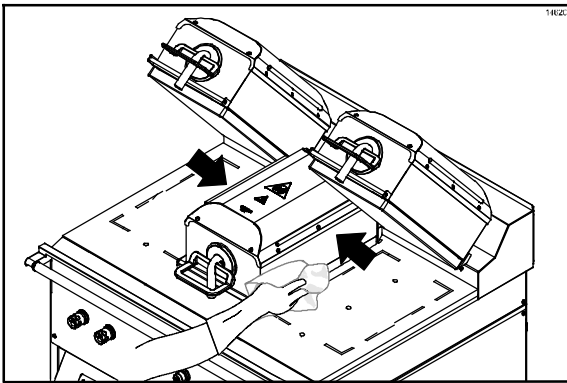

Figure 101
33. Rinse both sides of the center platen. (See Figure 101.)